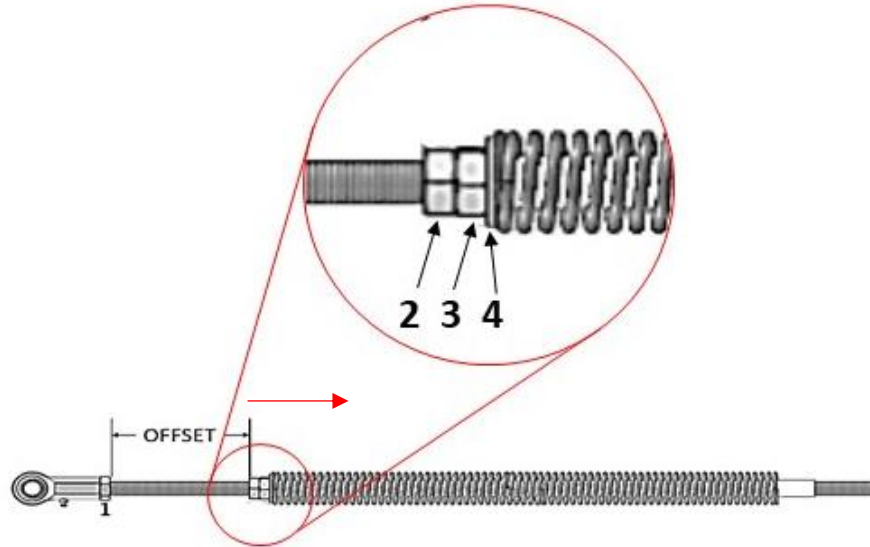

Figure 10: Hex Nut Offset
- After installing the clevis pin, the springs need to be tensioned. (The gate needs to be upright during this step.) Tension the springs by moving the hex nut, labeled 3 in Figure 10, down the threaded rod. This will compress the spring. When the hex nut labeled 3 seems to be in the desired position, move the hex nut labeled 2 in Figure 10 until it is firm against hex nut 3. Ensure the flat washer labeled 4 in Figure 10 is installed between hex nut and spring.